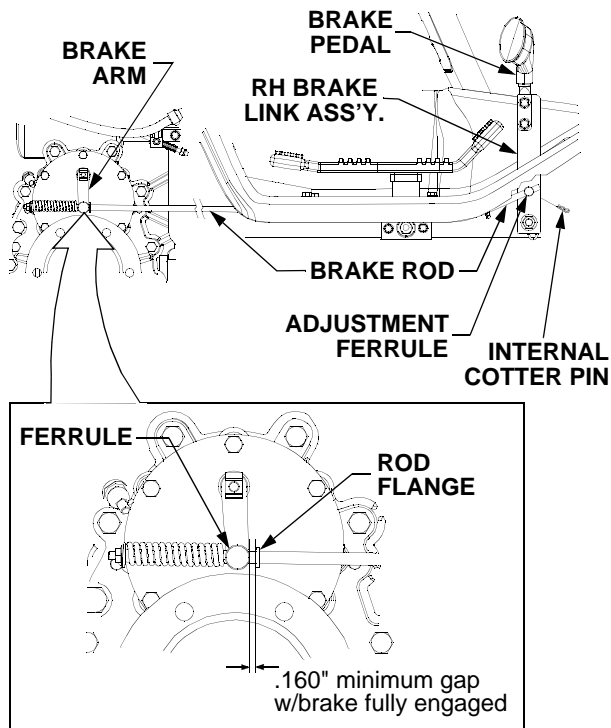

Figure 29
- From the right/rear side of the tractor, check the gap between the flange of the brake rod and the ferrule connected to the transmission brake arm. The gap should be a minimum of .160". See Figure 29.
- Remove the internal cotter pin and disengage the adjustment ferrule at the front of the brake rod from the brake link. See Figure 29.